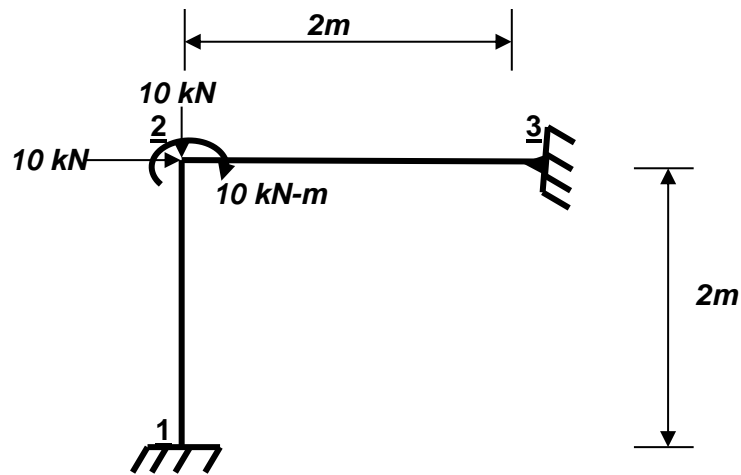

FIGURE Q.4
Q.4. The frame below is subjected to the external loads and supported as shown in the Figure Q.4.